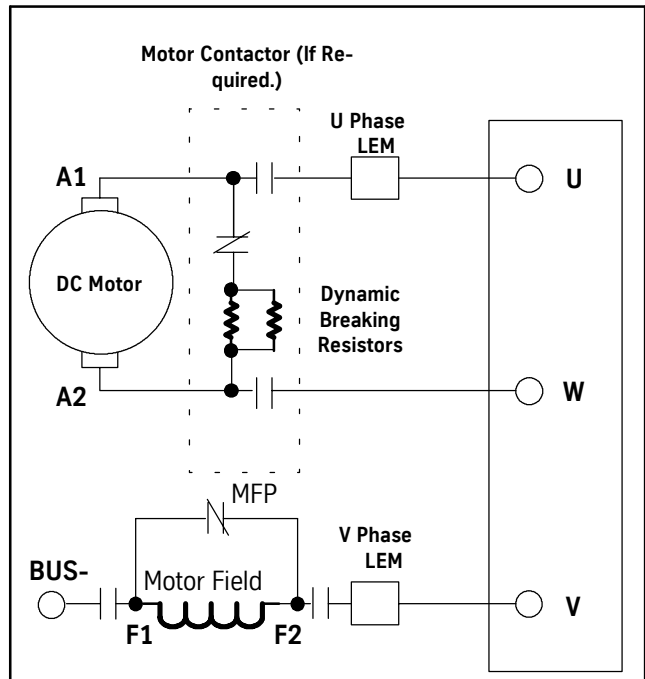

Figure 14 - DC Motor Output Wiring with Motor Contactor
- **Installations WITH Motor Contactor: See Figure 14.**